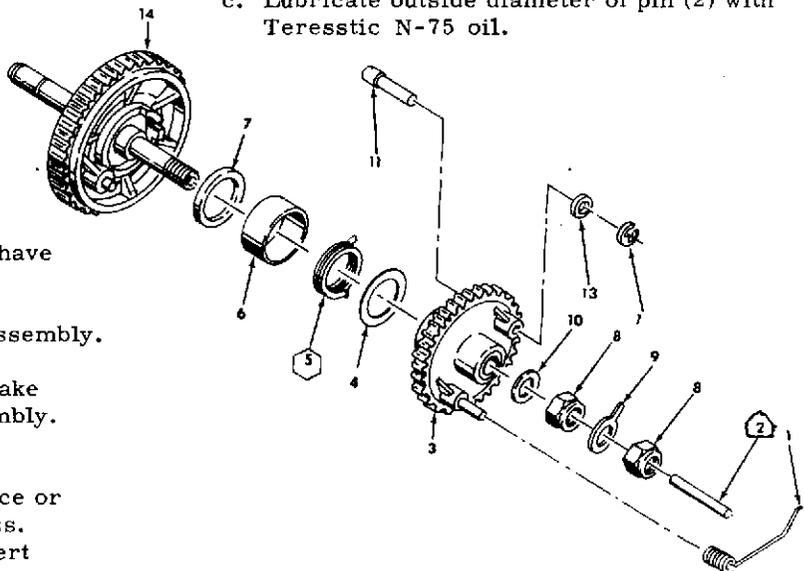

Figure 3-20. FEED SPROCKET CLUTCH COMPLETE
8. Clutch Complete, Feed Sprocket (Fig.3-20)
- a. Lubricate spring (5) with 009 Lubricant.
- b. Adjust nut (8) to obtain .002 to .010 end play on gear and hub (3).
- c. Lubricate outside diameter of pin (2) with Teresstic N-75 oil.